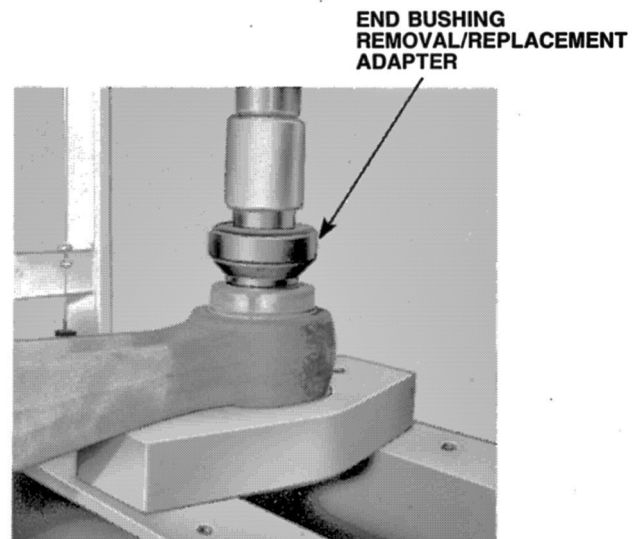

FIGURE 4
1. Position the equalizing beam in the shop press and align the End Bushing Removal/Replacement Adapter (Item No. 1) with the tapered end facing the bushing to be removed (see Figure 4).